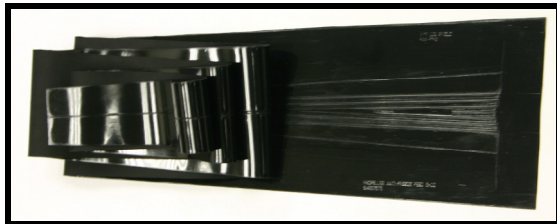

FIGURE 6.1
- 6.1 SMR Anti-Freeze Feed Shoe systems remove propeller ice accumulation during flight by distributing anti-freeze liquid over potential icing areas on propeller blades. The liquid is directed onto the grooved propeller shoe and distributed along the blade's leading edge. (Figure 6.1)